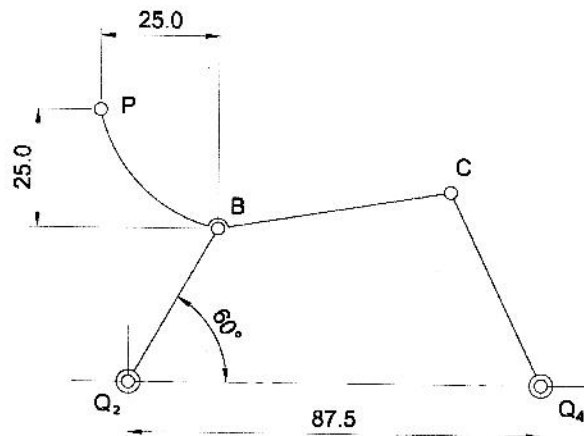
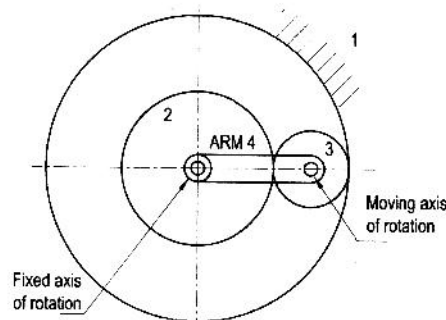

Figure 5
Figure 7
- b) In figure 5,  $Q_2B$  is 37.5 mm;  $Q_2Q_4$  is 87.5 mm;  $Q_4C$  is 45 mm;  $BC$  is 50 mm. Angular speed of the crank  $Q_2B$  is 1 rad/sec CCW. Find velocities of C and P by resolution and composition method.
- b) Consider that the arm 4 of the following figure 5 rotates CCW at 50 rad /sec. Given: Teeth of gear 1 = 80, Teeth of gear 2 = 40, Teeth of gear 3 = 20. Determine angular speed of gear 2 (figure 7).